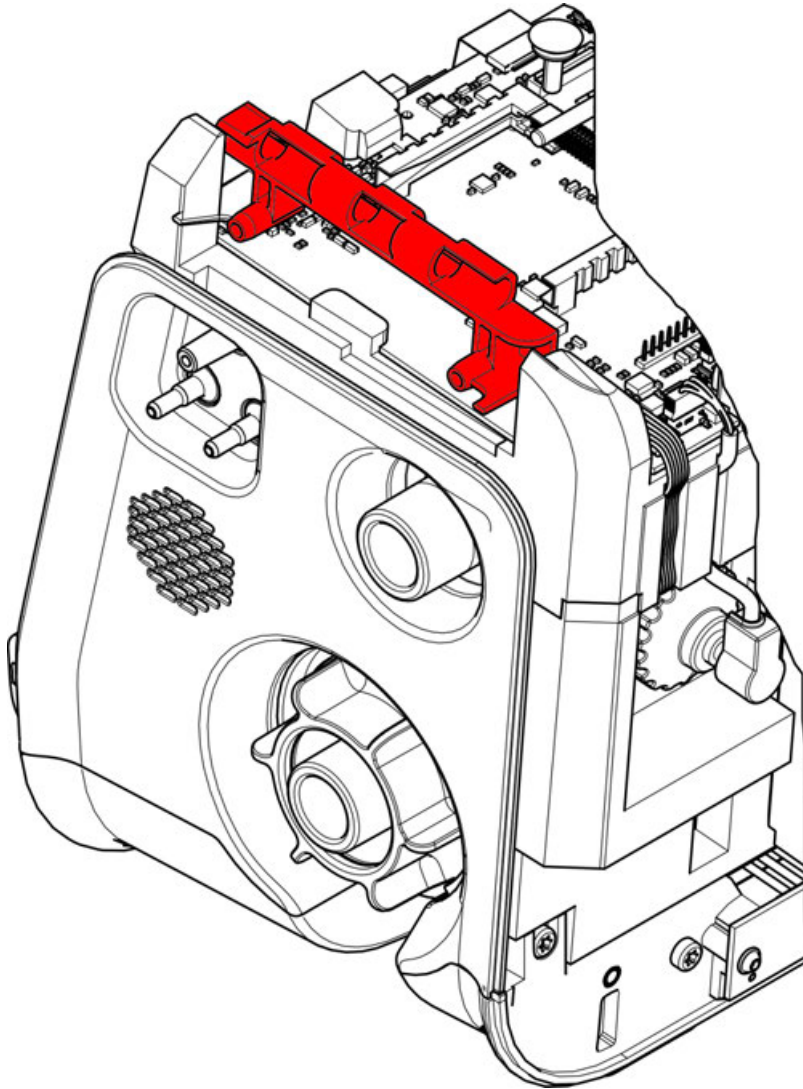

Fig. 211 Option board bracket
3. Remove the front panel (C) carefully.
4. Remove the option board bracket (Fig.211).